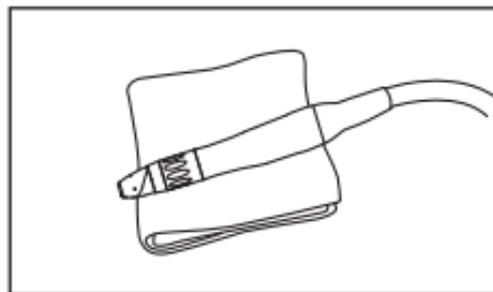

Fig. 11
- 4** Wipe the exterior of the handpiece clean using a cloth moistened with disinfectant or ethanol with a concentration of 60-90%. (Fig. 11)